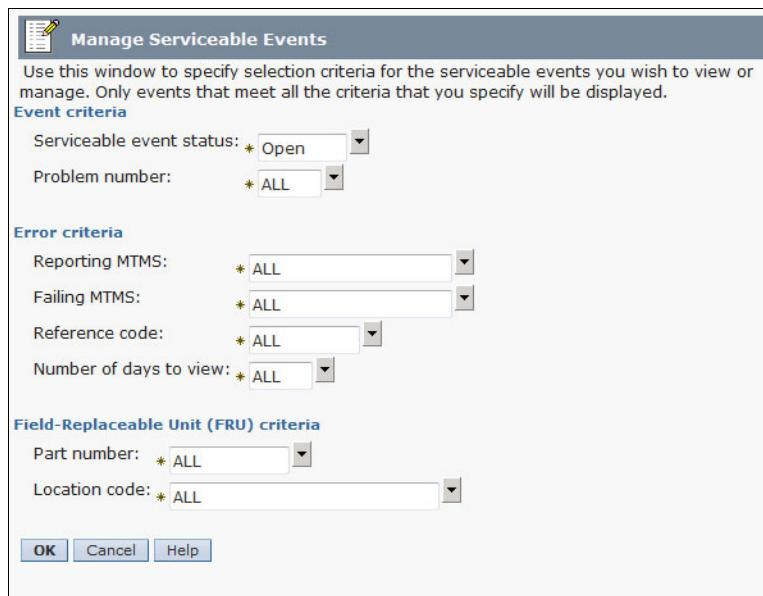

Figure 6-3 Manage Serviceable Events
5. The Manage Serviceable Events window opens (Figure 6-3).